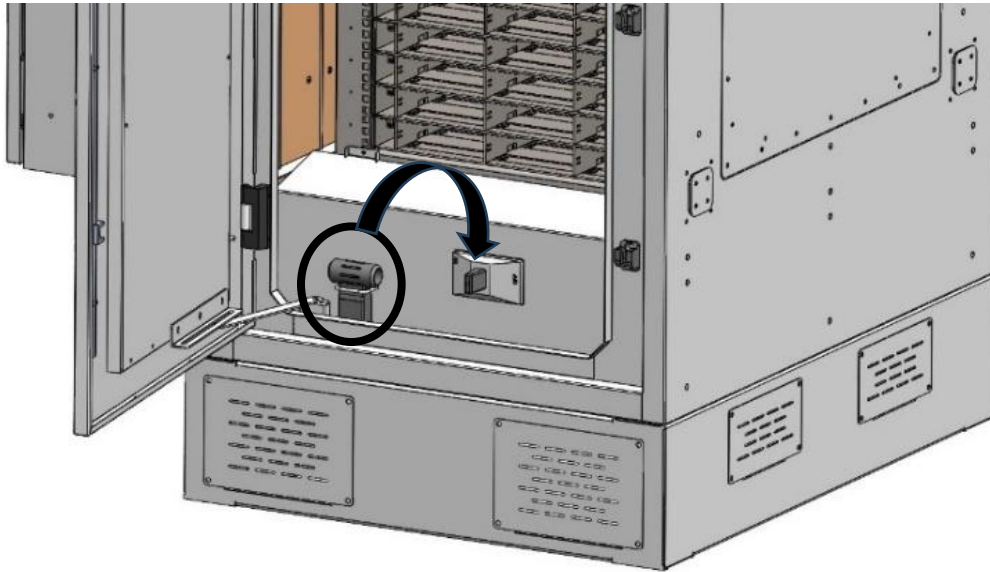

Figure 24 – Main Switch Handle in handle hanger
- a. Retrieve main switch handle from its hanger (Figure 24).